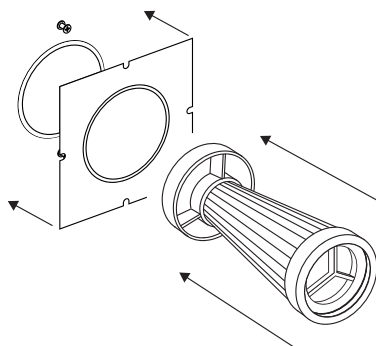

Figure 6.7. Installation of filter and sealing element
- Glue the sealing element to the wall. Insert the filter into the ventilation duct (Figure 6.7). The edge of the filter should be recessed in the air channel by 20 mm.